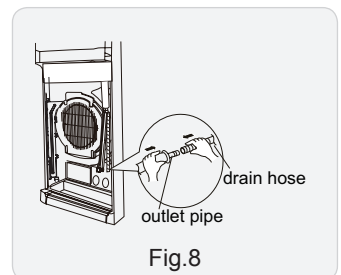

Fig.8
(1) Connect the drain hose to the outlet pipe of indoor unit.(As show in Fig.8)
(2) Bind the joint with tape.(As show in Fig.8)